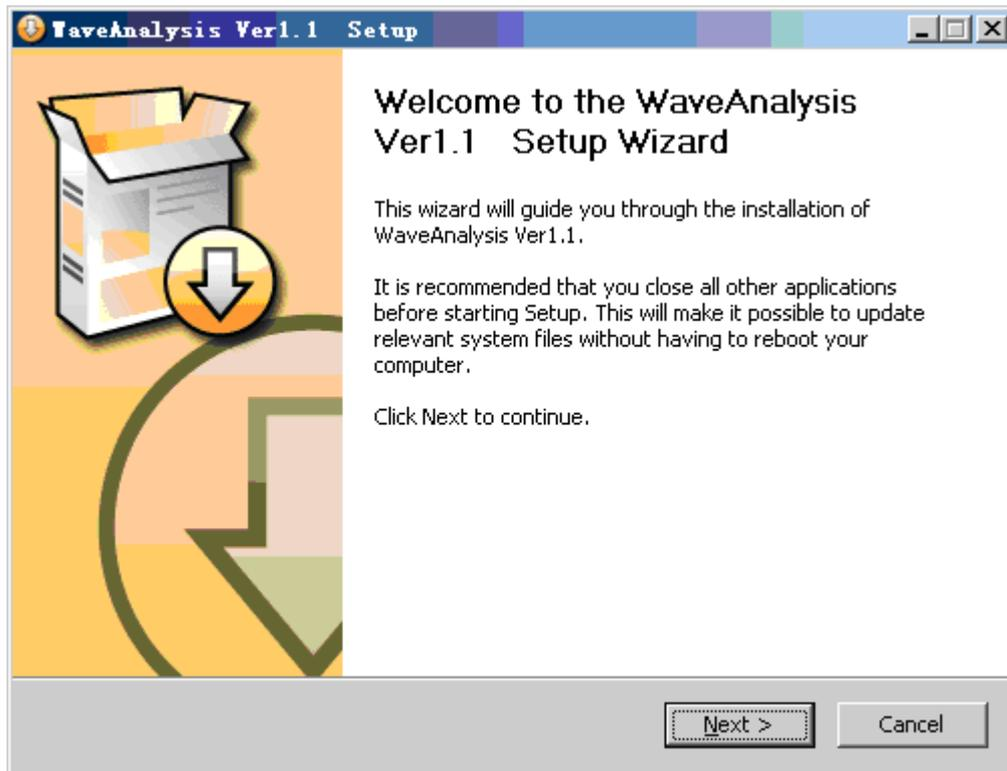
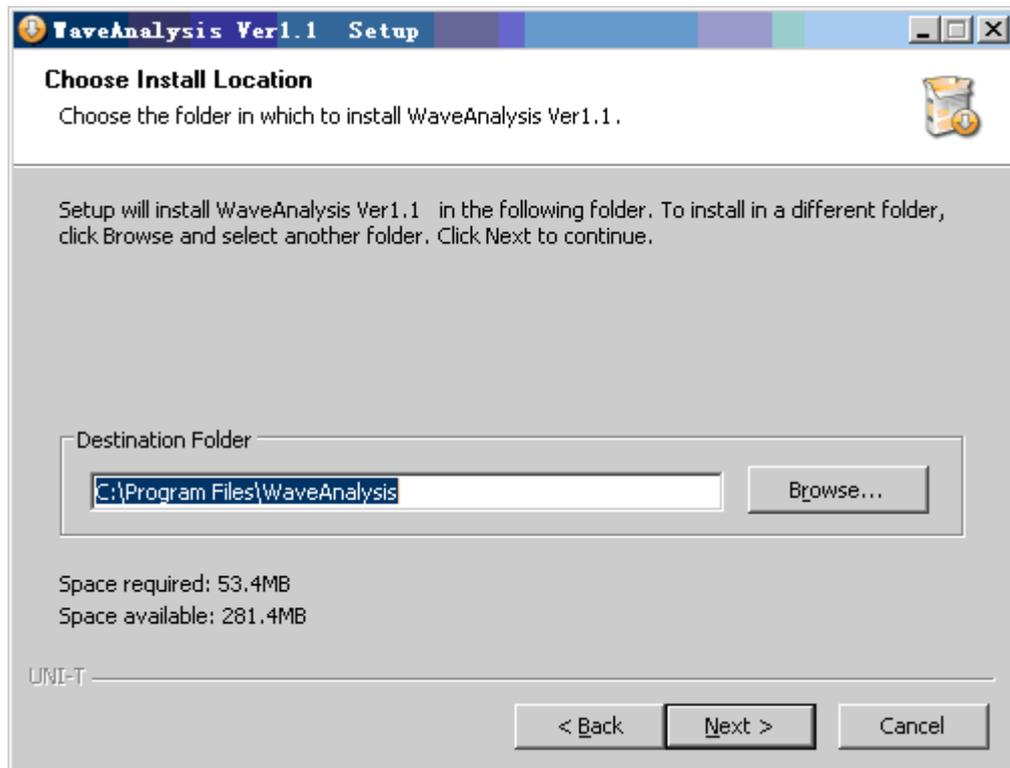

Fig. 1-3
Fig. 1-4
**Step two :** After setting the language, a welcome screen will appear with the software installation guide, as shown in Fig. 1-3.
**Step three:** Read the prompt in Fig. 1-3 then click the **NEXT (N)** button to enter the next step, as shown in Fig. 1-4.
**Step four :** In Fig. 1-4, click **BROWSE (B)** to designate the installation path for the waveform